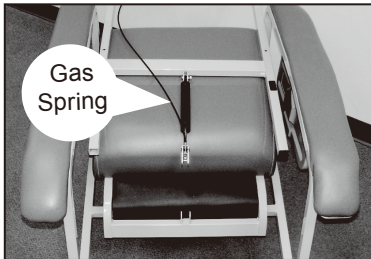

FIGURE 1
1. Remove cardboard shipping retainers from around Gas Spring Cylinder. Rotate the hinge on the gas spring so that it is perpendicular to the upholstered back. (See figure 1)